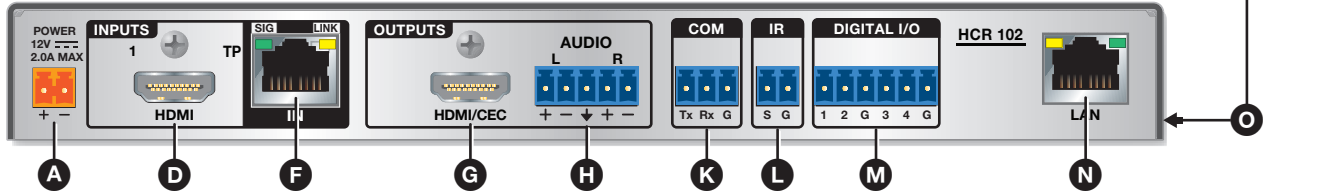
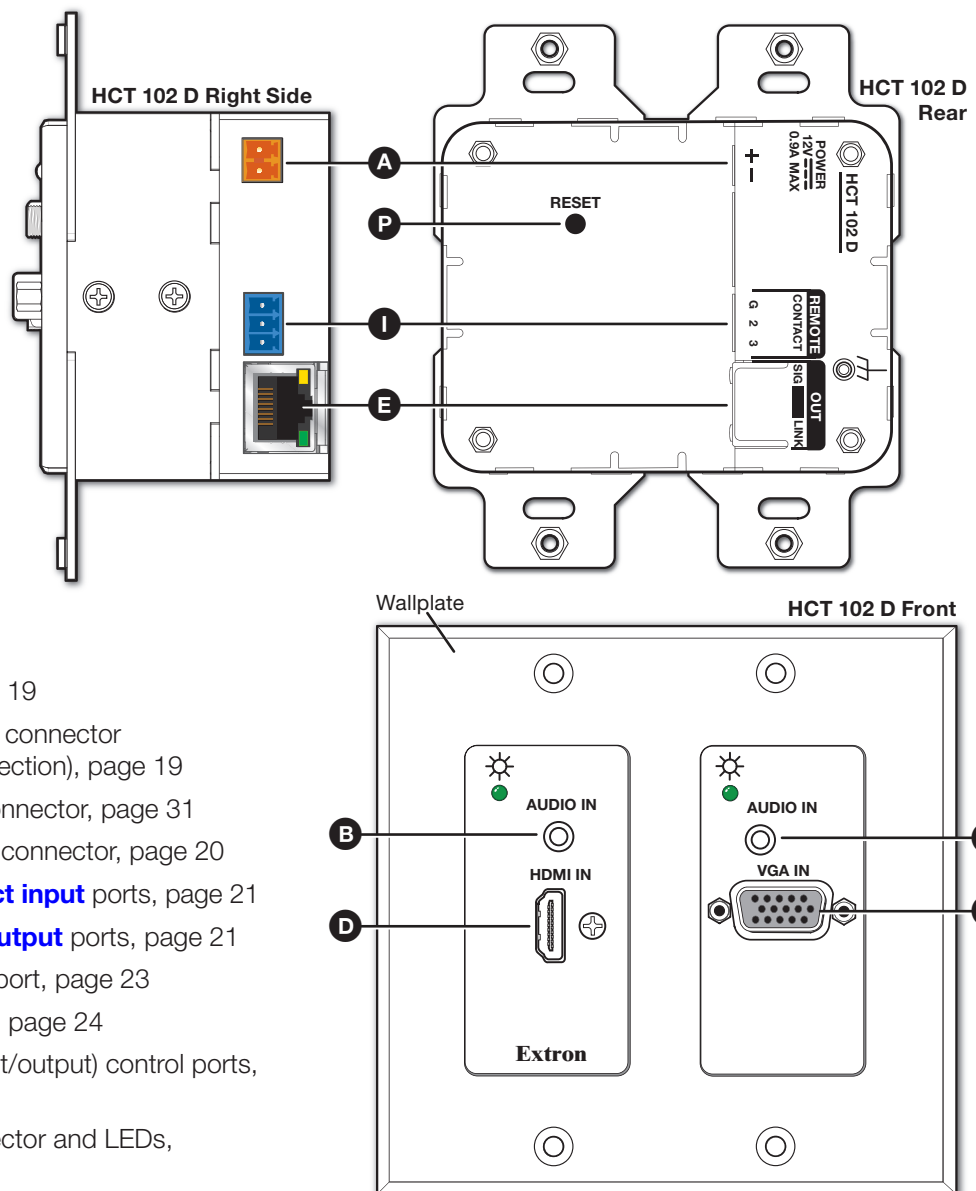
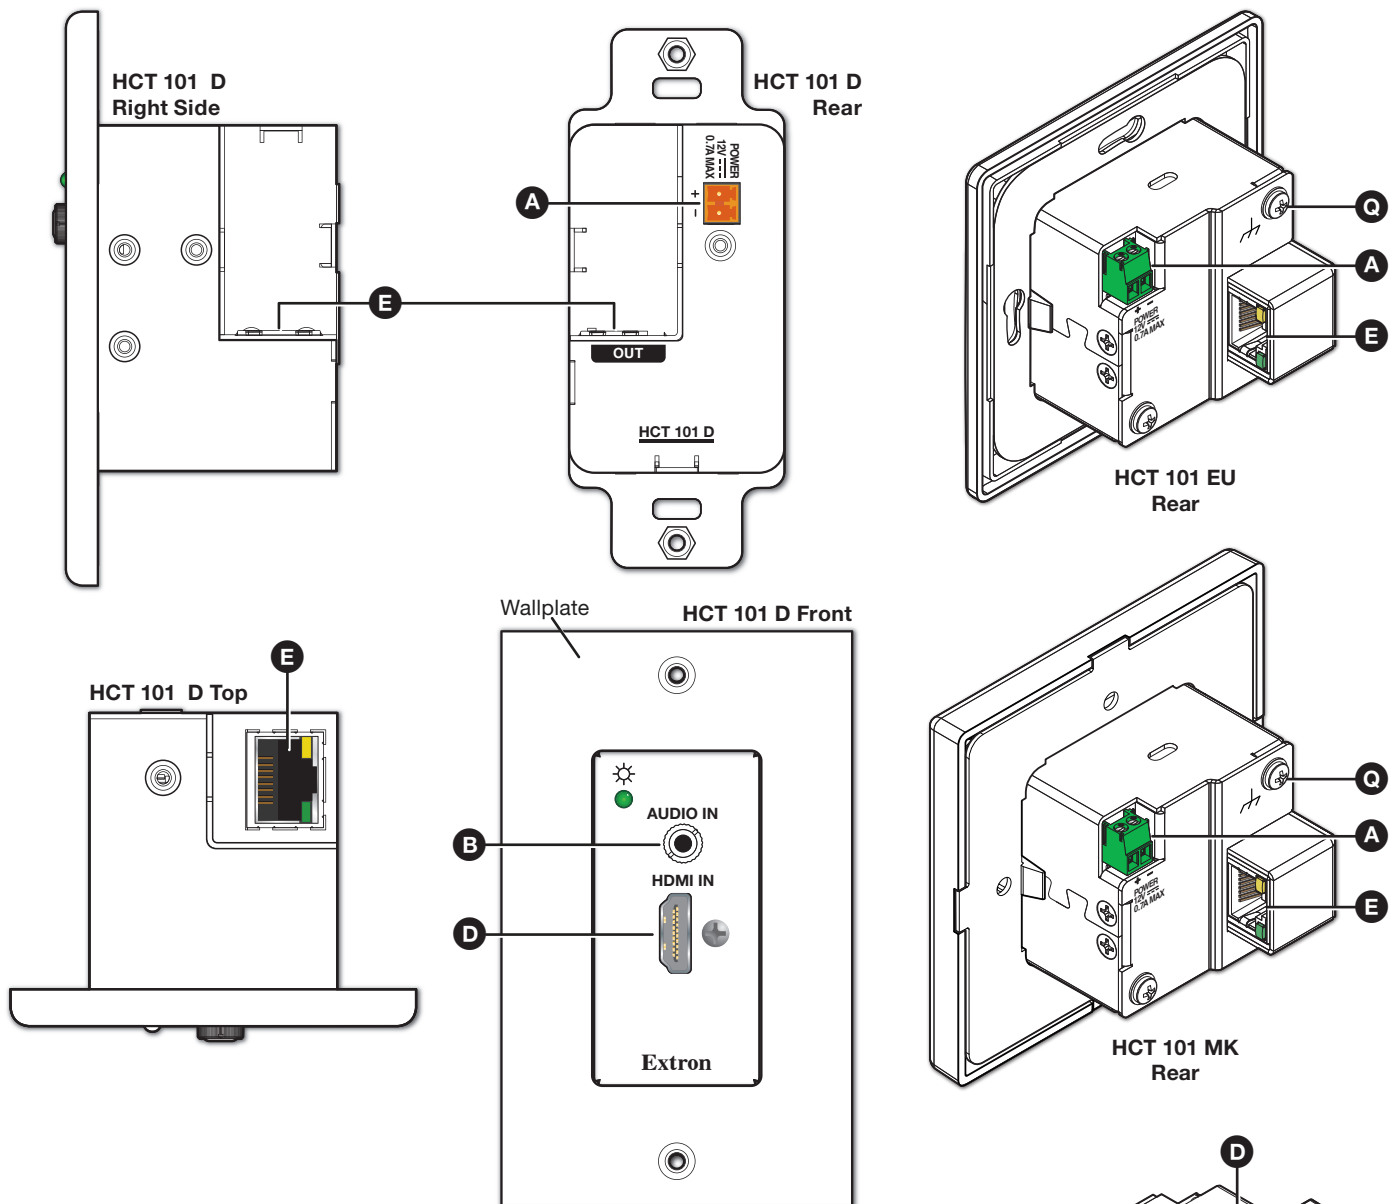

Figure 7. HCT 103 Rear Panel (Top) and HCR 102 Rear Panel (Bottom)
Figure 8. HCT 102 D Right Side Panel (Top Left), Rear Panel (Top Right), Front Panel (Bottom)
Figure 9. HCT 101 D Right Side Panel (Top Left), Rear Panel (Top Right), Top Panel (Bottom Left), Front Panel (Bottom Right)
- B Analog audio input** (see figure 7 and figure 8 on page 16 and figure 9 on page 17) — For analog audio sources, connect the source device to the audio input 3.5 mm tip-ring-sleeve (TRS) connector on the transmitter. Wire the connector as shown at right.
- C Analog video input** — Connect an analog RGB video input source to the 15-pin HD RGB input connector (see figure 7 and figure 8 on page 16) on the transmitter.
- D Digital AV (HDMI) input** (see figure 7 and figure 8 on page 16 and figure 9 and figure 10 on page 17) — For HDMI video and for digital audio embedded within HDMI signals (or single link DVI-D with the appropriate DVI-HDMI adapters):
Connect the Out port of the transmitter (E) (see figure 7 and figure 8 on page 16 and figure 9 and figure 10 on page 17) to the In port of the receiver (see figure 7, F on page 16) using a shielded twisted pair CAT x cable of up to 230 feet (70 m), as shown in figure 1 on page 4. Terminate the cable with shielded RJ-45 connectors using the TIA/EIA-T568B wiring standard at both ends, as shown at right.
1. Connect a display, projector, or other AV device to the Outputs HDMI/CEC connector (see figure 7, G on page 16) on the receiver rear panel for HDMI AV output. For more about the Consumer Electronics Control (CEC) connection and function, see HDMI/CEC on page 31
Connect a host computer to the USB mini-B port on the receiver (see figure 7 and figure 8, A on page 16) for device configuration with PCS software.
The remote control contact input ports (see figure 7 and figure 8, ①) and tally output ports (see ②) are typically used together. Momentarily short a contact input pin to ground to select the corresponding input. Connect a tally output pin and tally voltage pin to light an LED to indicate that the corresponding input is selected.